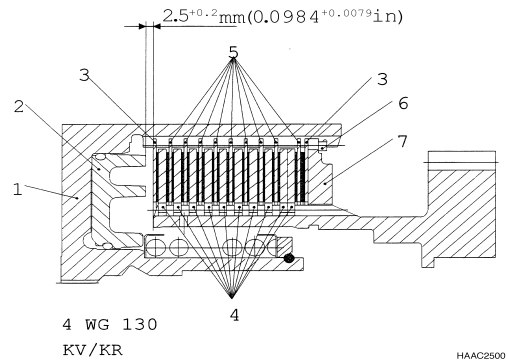

Figure 171
3. Install plate pack according to Figure 171.